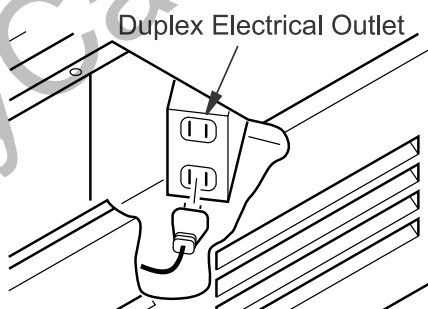

Figure 12 - Accessing Duplex Electrical Outlet Installed in Bottom Right Side of Firebox
⚠ WARNING: If there is a duplex electrical outlet installed in the right side of the bottom of the fireplace base area (see Figure 12), be sure that the electrical power to the outlet is turned off before proceeding with blower installation. Failure to do this may result in serious injury.
13. Plug in blower power cord to duplex outlet (see Figure 12, page 14).
- Plug in blower power cord to duplex outlet (see Figure 12, page 14).